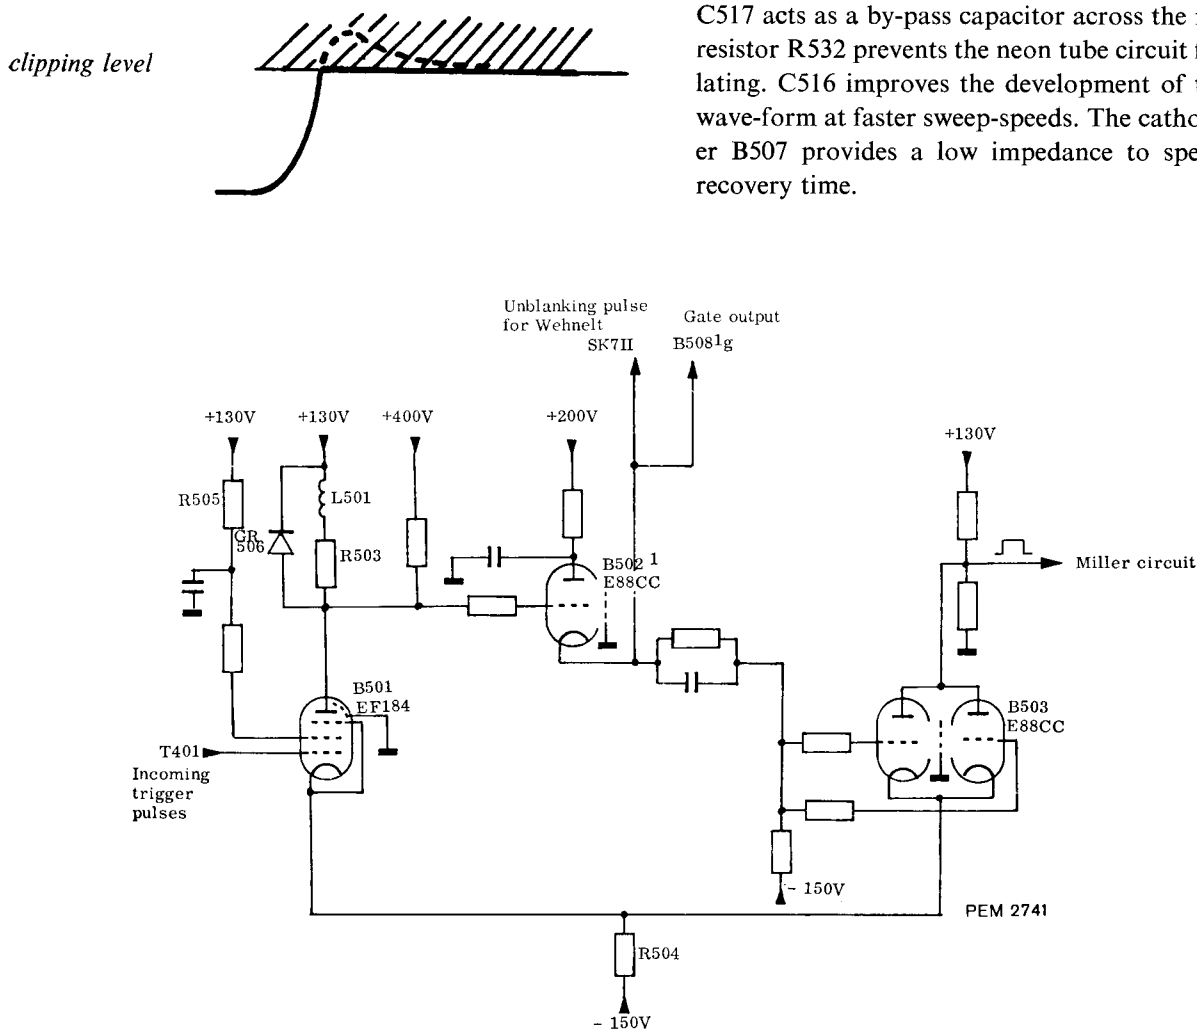

Fig. 32. Sweep-gating multivibrator
3. Sweep-gating multivibrator (Fig. 32)